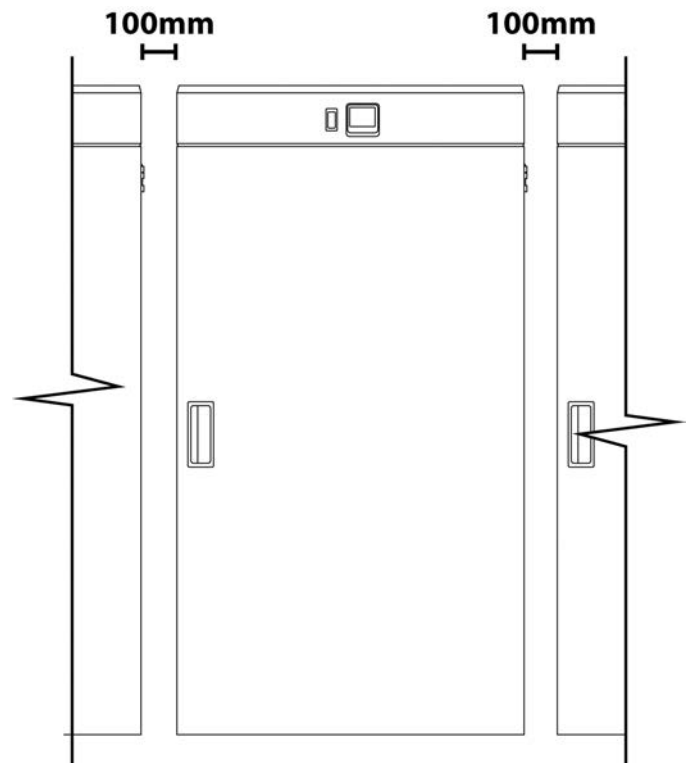

Fig 3.
- While the incubator doesn't necessarily require ventilation, Thermoline still suggests 100mm on the sides and back to aid with accessibility **(Fig 3)**